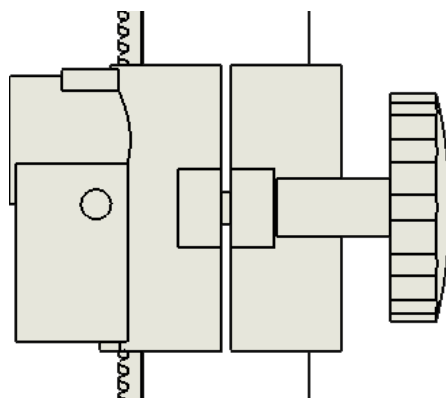

Figure 11
Step 12 Put hand wheel clamp pad screwed to the support clamp hole, securely tighten and then fixed the worktable. Figure 11